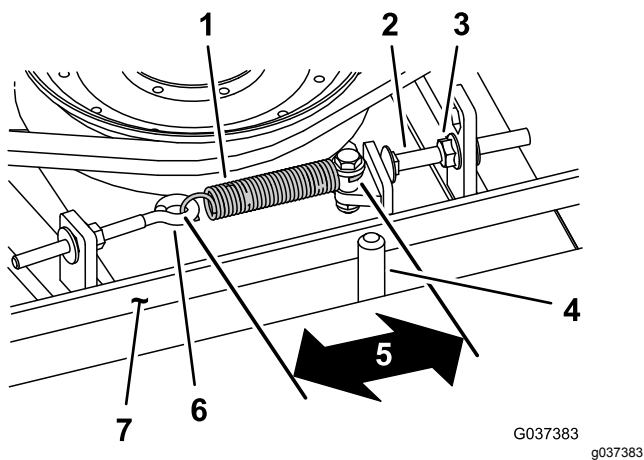

Figure 114
When properly tensioned, the inside measurement of the extension spring (hook to hook) should be approximately 8.3 to 9.5 cm (3-1/4 to 3-3/4 inches). Once the correct spring tension is attained, adjust the stop bolt (carriage bolt) until there is approximately 2 to 5 mm (0.065 to 0.185 inch) clearance between the head of the bolt and the idler arm (Figure 114).
Note: Ensure that the belt is positioned on the spring side of the belt guide (Figure 114).
- Loosen the eye bolt (Figure 114).
- Loosen the flange nut securing the stop bolt to the mounting tab and move the idler pulley away from the belt (Figure 114).
9. Connect the extension spring (Figure 114) to the eye bolt and tension the belt as follows: